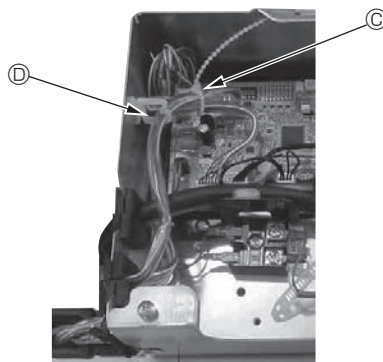

Fig. 10-14
- Place the excess portions of the i-See sensor and signal receiver junction wires in the electric component box in the wire clip as shown in the diagram, and secure the wires together with the fastener. (Fig. 10-14)